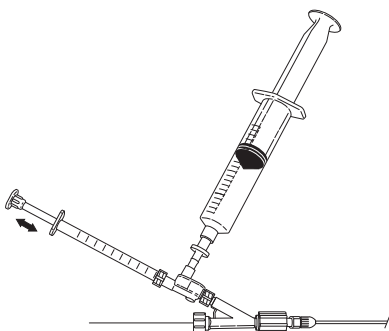

Fig. 8
10. To infuse solution, draw desired dose into 1 ml syringe and inject. Reload 1 ml syringe and repeat infusion technique as necessary. (Fig. 8)